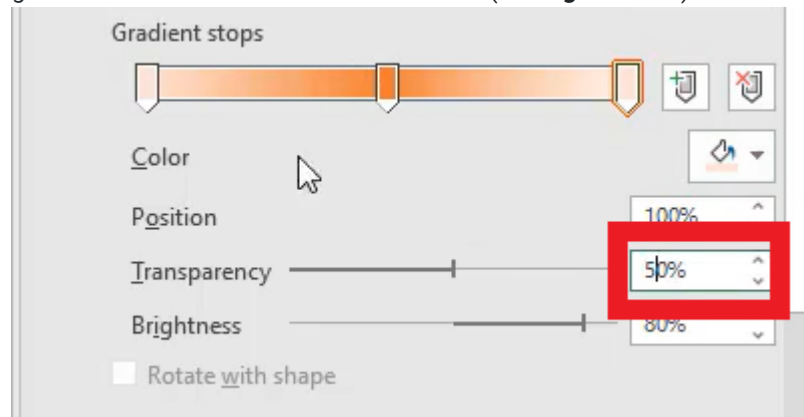

Figure 37.40
- a. This lets the background fade in and shows us where we're at. (See **Figure 37.40**)